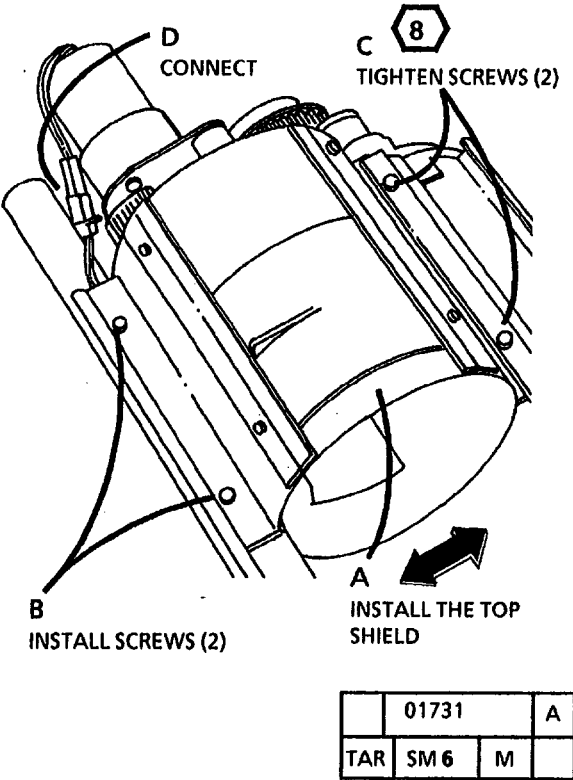

Figure 13. Reinstalling the Top Shield
20. (Figure 13): Reinstall the Top Shield.